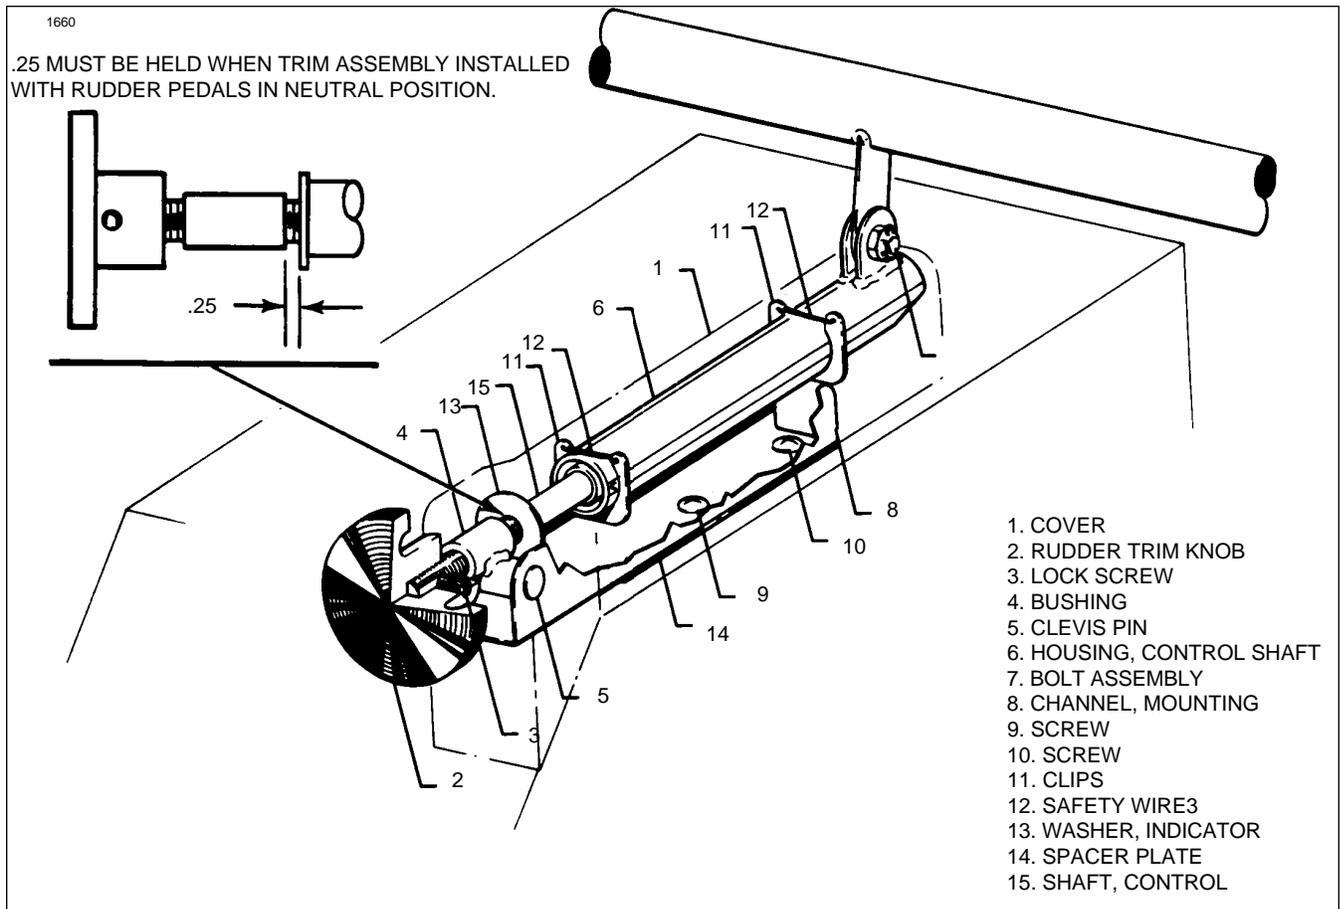

Figure 5-14. Rudder Trim Control
5-35. REMOVAL OF WING FLAP CONTROLS. (Refer to Figure 5-14.)
7. Remove the cotter pin guard from the flap cable pulley (24) located inside the floor tunnel just ahead of the spar housing.
9. Disconnect the cable turnbuckle (25) at the flap handle by removing cotter pin, nut, washer, bushing\*, and bolt (26). Check clevis bolt (26) for wear. Replace bolt if any wear is evident. \*(See latest revision of Piper Service Bulletin 965.)
c. Remove the flap handle (29) and bracket (28) by disconnecting the cable turnbuckle from the handle and removing the bolts securing the bracket to the floor tunnel.
**5-36. INSTALLATION OF FLAP CONTROLS.** (Refer to Figure 5-14.)
1. Install the chain sprocket (17) with chain (20 and 30) on the torque tube (14) and secure with bolts, washers and nuts (18).
2. Slide the tube stop fittings (13) on their respective ends of the torque tube.
3. Ascertain that one bearing block fitting (7) is installed between its attachment brackets (6).
6. Position the remaining bearing block and secure with bolts, washers and nuts (5).
7. Push the torque tube cranks (arms) (11) on each end of the torque tube and slide the stop fitting (13) in place. Align the bolt hole of the crank and stop fitting with the holes in the torque tube and install bolts. The holes in the stop fitting are elongated to allow the stop fitting to be pushed against the bearing blocks (7) thus allowing no side play of the assembly. Tighten the bolt assemblies (10) on the stop fittings.
8. Install the tube support blocks (16 and 31) on their support brackets (19) and secure with bolts (15).
9. Connect the flap return spring (32) to the return chain (30) and/or at the spar housing.